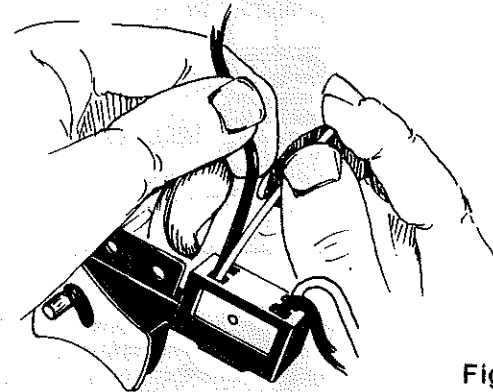

Fig. 8
3. Release the leads to the switch by inserting a 1/32" diameter pin or nail into each switch lead receptacle. See Figure 8.